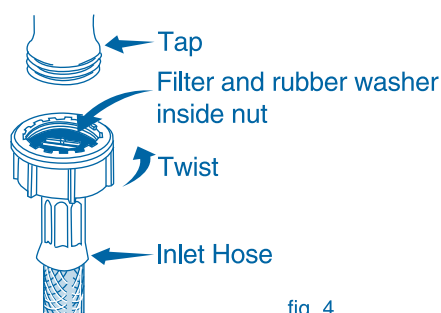

fig. 4
- Take the inlet hose with the RED coloured end and connect to the hot water tap (see fig. 4). Similarly connect the hose with the blue end to the cold water tap.